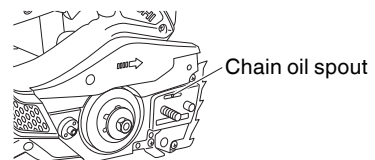

Fig. 39
3. Cleaning the chain oil spout (Fig. 39)